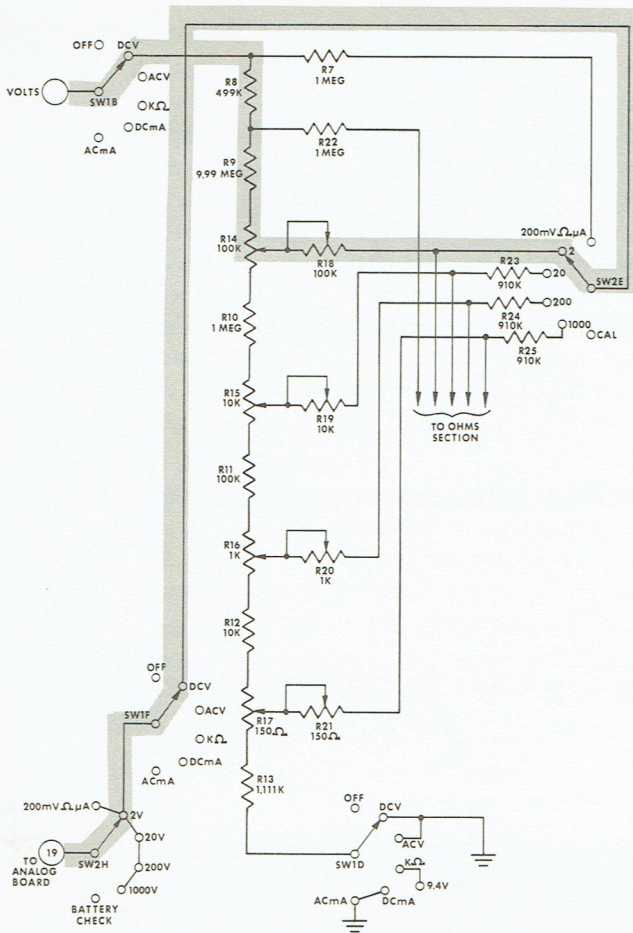

Figure 2
3.1 Signal Conditioning Board (See Figures 2 through 6)